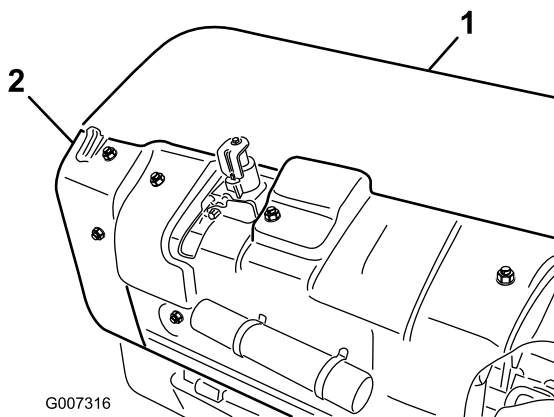

Figure 30
- A. Remove the rear coring head cover (Figure 30).
- B. Remove the pulley shield mounting bolts and remove the shield (Figure 30).